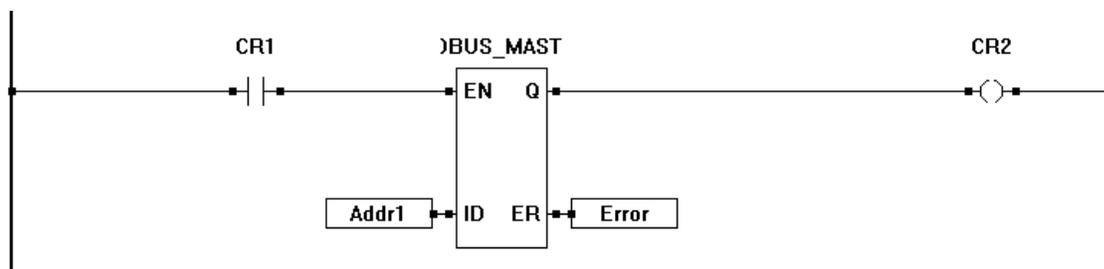

Figure 13-19
When configured as a Modbus Master, the target Slave ID (slave to communicate to) is set in the ladder diagram project using a variable and the **MODBUS\_MASTER** or **MODBUS\_MASTER2** function block. The variable connected to the ID pin of the MODBUS\_MASTER function block will hold the IP address of the slave device. The slave ID is to be entered in an IP address format (eg: 192.168.1.55). Refer to Figures 13-19 and 13-20. Refer to Appendix A - Function Reference for more details on the **MODBUS\_MASTER** and **MODBUS\_MASTER2** function blocks.
When configured as a Modbus Master, the target Slave ID (slave to communicate to) is set in the ladder diagram project using a variable and the **MODBUS\_MASTER** or **MODBUS\_MASTER2** function blocks. The variable connected to the ID pin of the MODBUS\_MASTER(2) function block will hold the IP address of the slave device. In the Default Value field, the slave ID is to be entered in an IP address format (eg: 192.168.1.55). Refer to Figures 13-19 and 13-20.